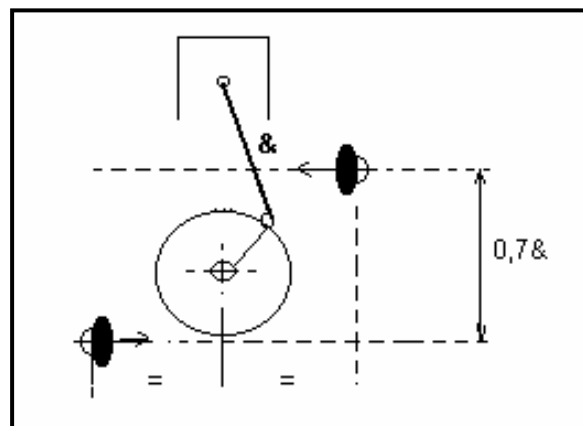

Figure 34 Mitsubishi Silent Shafts
The 4G63 Mitsubishi engine includes “silent shafts”. There are two eccentric shafts counter-rotating at two times the engine speed and registered so that both shafts “up” and “down” forces are additive to counter the up and down forces of the piston imbalance. Since the two shafts counter-rotate, the left to right forces of the two shafts are balanced to zero. See Figure 34 at right (1). The two